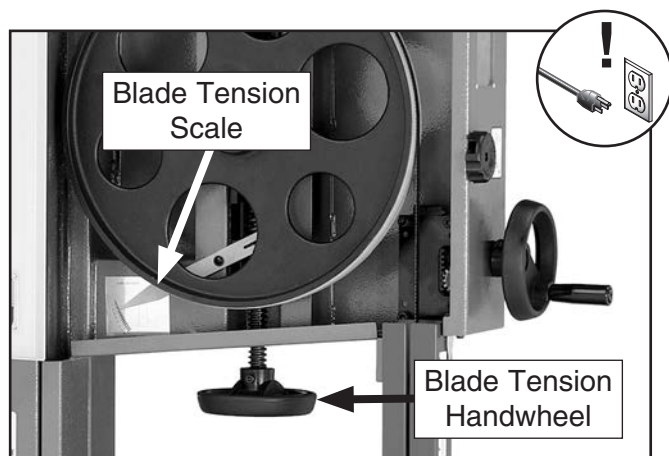

Figure 38. Blade tensioning controls.
5. Rotate blade tension handwheel until tension scale (see **Figure 38**) is between 4 and 6. Rotate handwheel *clockwise* to *increase* blade tension. Rotate handwheel *counter-clockwise* to *decrease* blade tension.